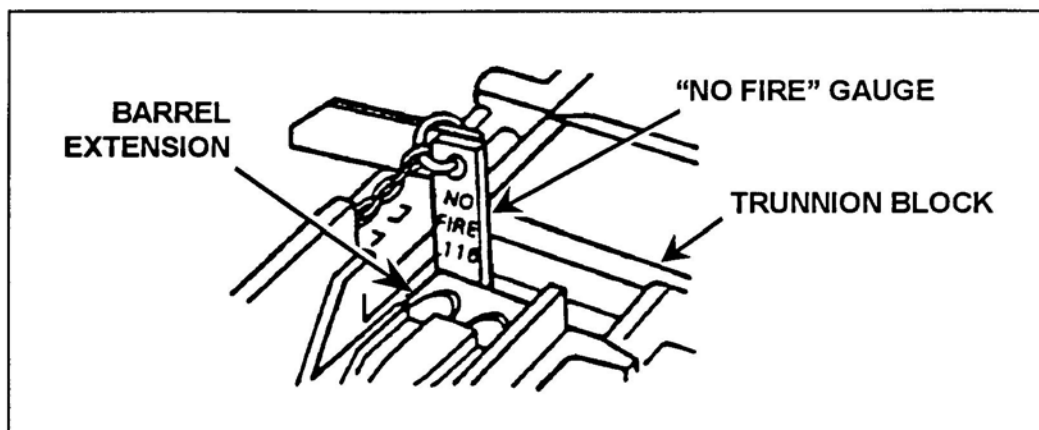

Figure 6. "No Fire" Positioning
- (1) Make sure you have set the headspace correctly.
- (2) Pull the bolt to the rear with the retracting slide to cock the machine gun. While holding the handle to the rear, depress the bolt latch release, and allow the bolt to go forward slowly. **DO NOT** press the trigger.
- (3) Retract the bolt just enough (1/16th inch) to insert the NO-FIRE gauge between the barrel extension and trunnion block, with the beveled edge of the gauge against the notches in the barrel. Release the retracting slide handle slowly (Figure 6).